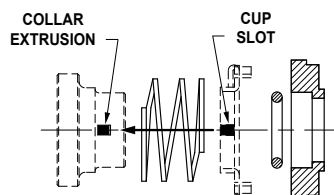

Figure No. 3
- d. Check to make sure that slot in cup is still aligned with the extrusion in the drive collar. (see figure no.3)